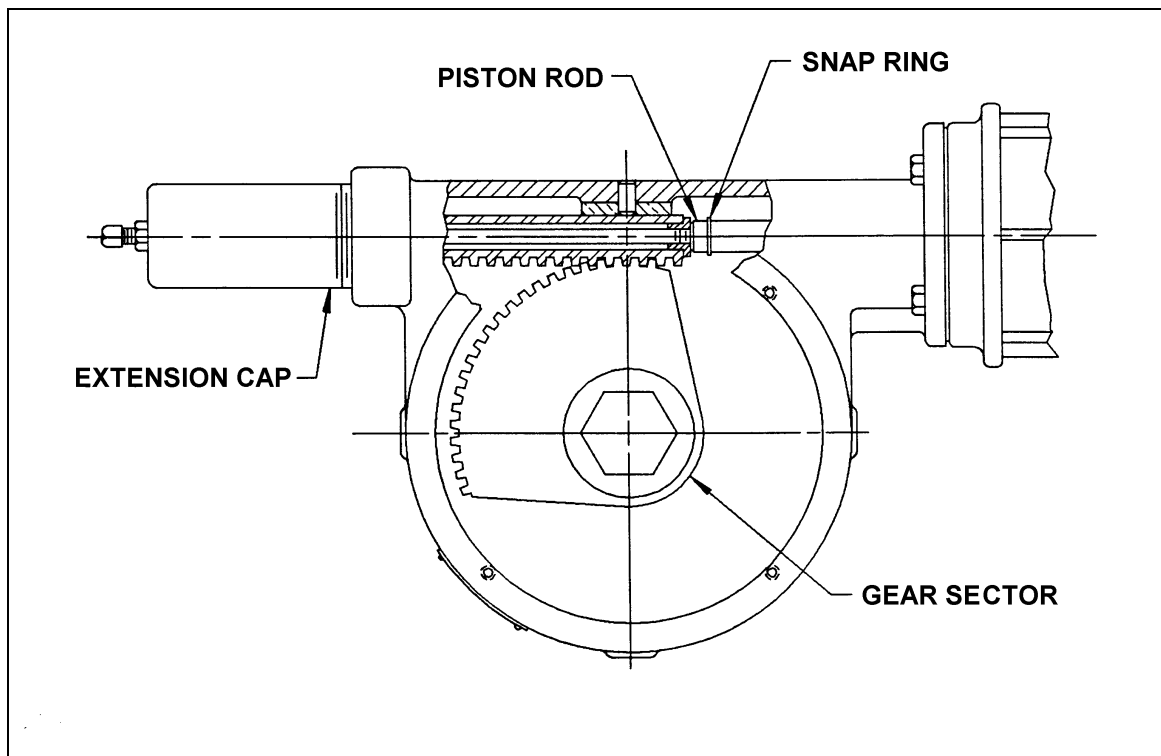

Figure 1—Actuator Shown with Cylinder Pressurized
3. Pressurize the cylinder. Inspect the snap ring on the end of the piston rod. (See Figure 1.)